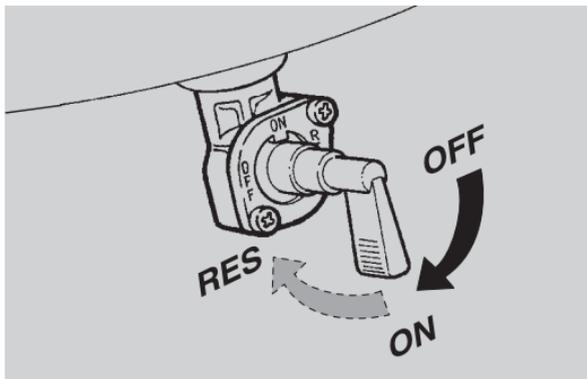

Fig. 22
- turn the fuel cock to position "ON" (Fig. 22);
- press the start push button "Ⓜ" (2-Fig. 22) with released throttle grip.